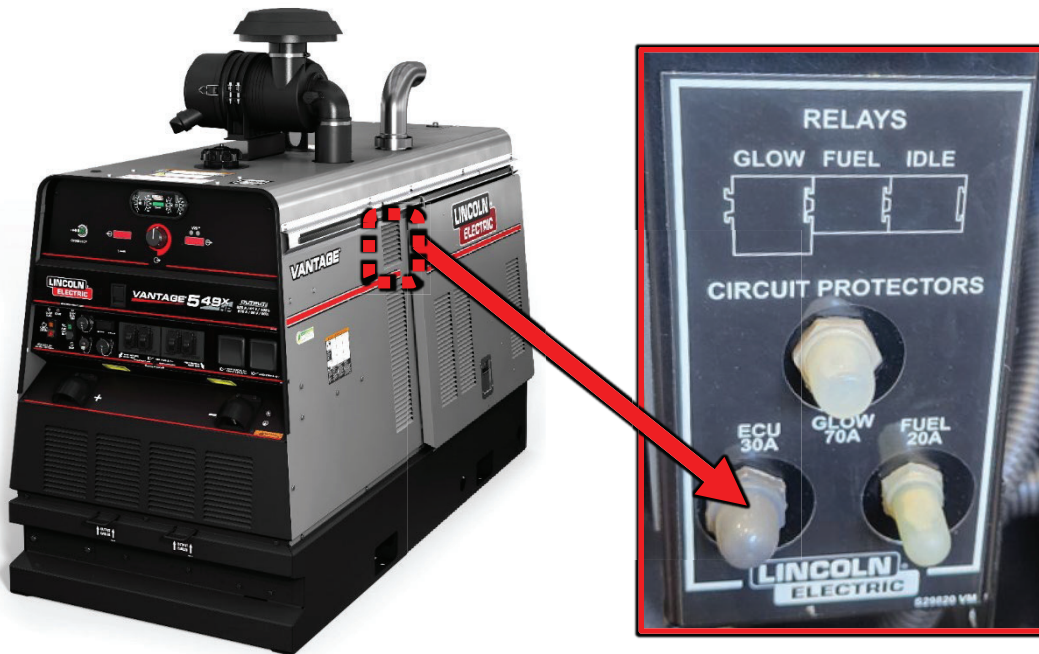

Figure F.1
1. For location of CB8 refer to Figure F.1.